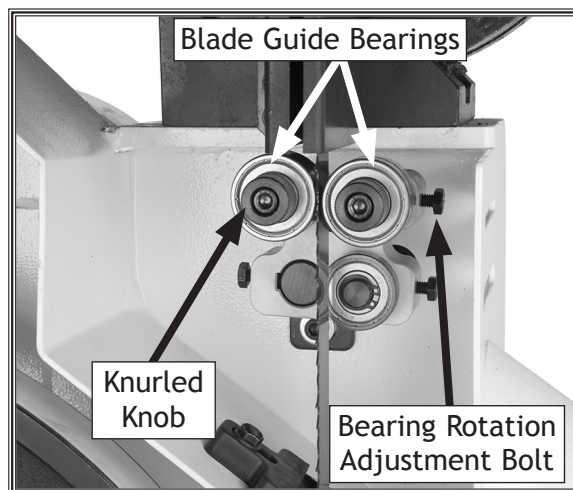

Figure 30. Lower blade guide controls (front view).
3. Familiarize yourself with the lower blade guide controls shown in **Figures 30** and **31**.